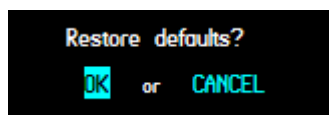

Figure 7.14
11.3 click on the ENTER key to display a window prompting to perform the function or cancel (Figure 7.14).